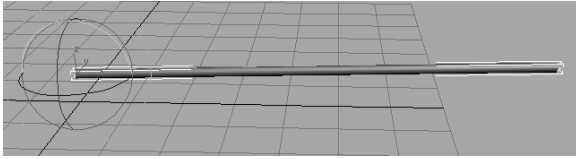

Figure 2.8
2. You can click and drag on one of the axes to rotate the cylinder in that axis. For our needs, click on the Y-axis rotate *handle*, which is the green circle, and drag the mouse to rotate the cylinder to the right of the screen as shown in Figure 2.8. The green Y-axis handle turns yellow when you select it. The active axis handle on any given gizmo is yellow.